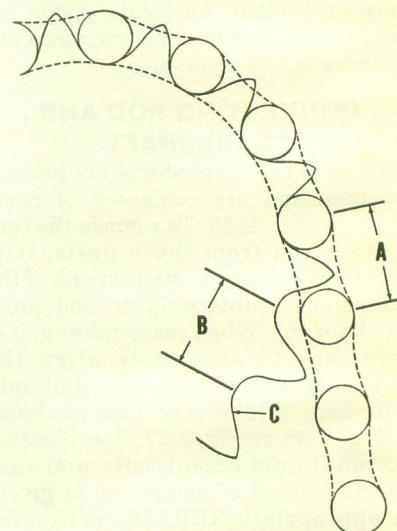

Fig. 2-48—Chain pitch (A) must exactly equal sprocket pitch (B) to prevent excessive wear on bearing edge of sprocket tooth (C). Refer to text.
Sprocket tooth profile is precisely ground to fit the roller diameter and chain pitch. Refer to Fig. 2-48. When chain and sprocket are new, the chain moves around the sprocket smoothly with a minimum of friction, and the load is evenly distributed over several sprocket teeth. Wear on pins and bushings of a roller chain results in a lengthening or "stretch" of each individual chain pitch as well as a lengthening of the complete chain. The worn chain, therefore, no longer perfectly fits the sprocket. Each roller contacts the sprocket tooth higher up on the bearing area (C) and that tooth bears the total load until the next tooth and